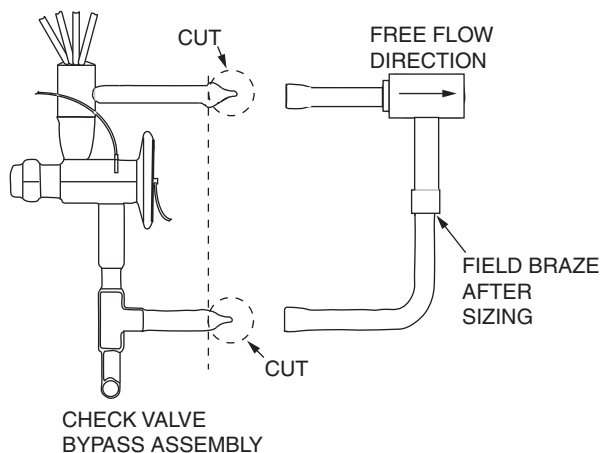

Fig. 58 — Heat Pump Bypass Kit Installation
1. Cut off the ends of the stubout tubes near the location of the dotted lines shown in Fig. 58.